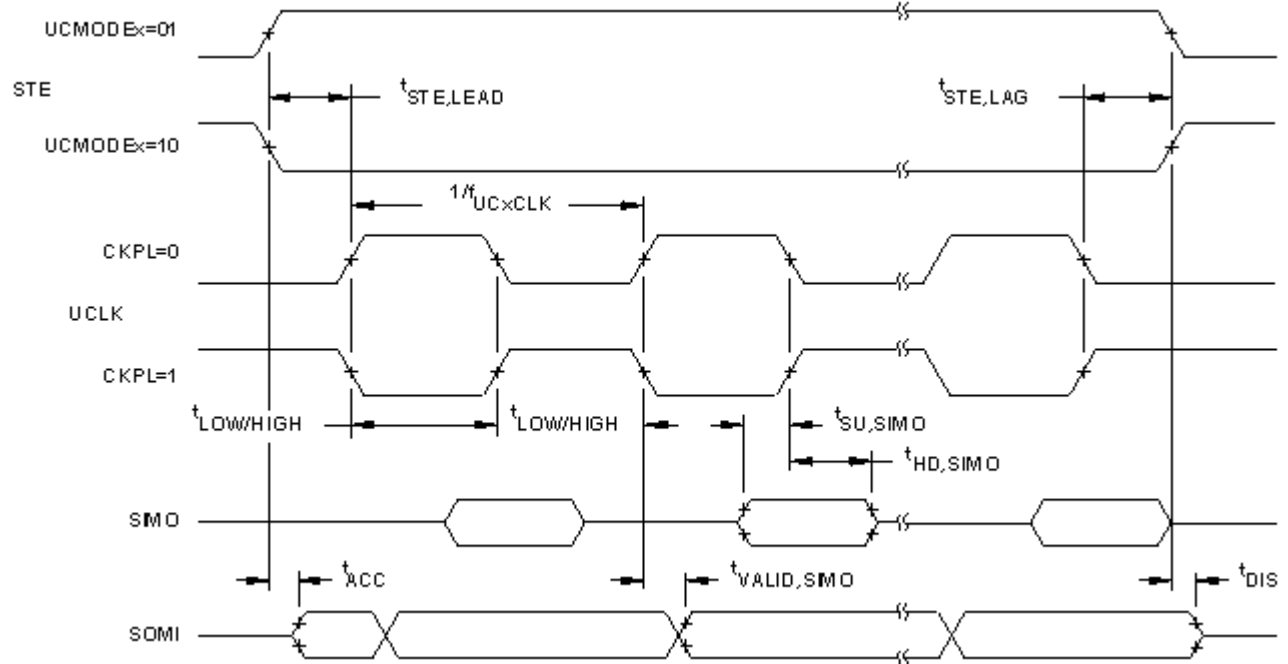
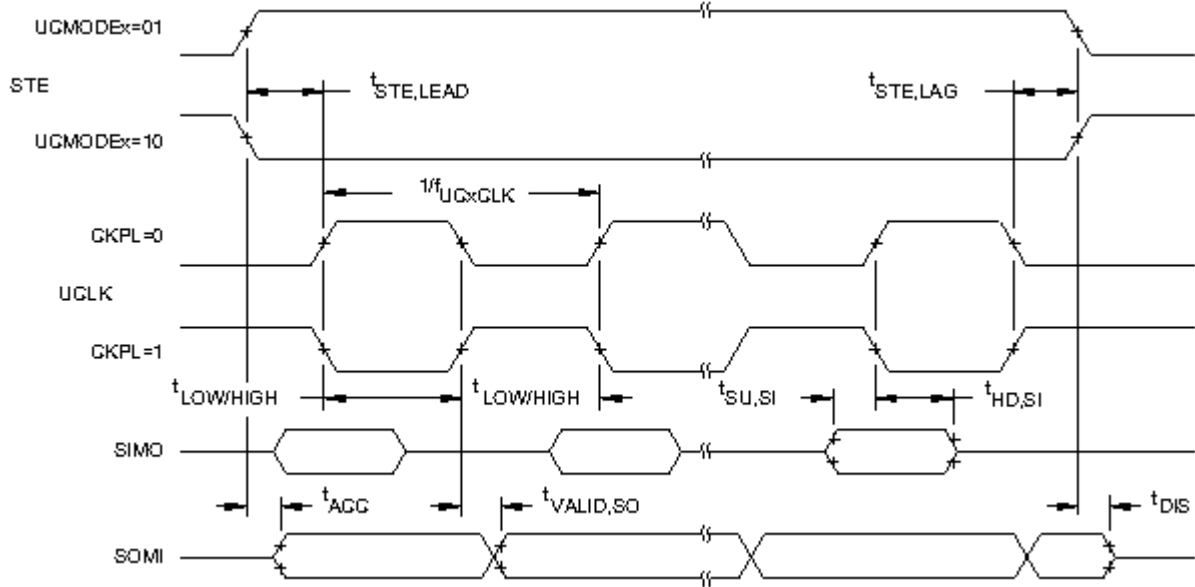

FIGURE 11. SPI Slave mode, CKPH = 0.
FIGURE 12. SPI Slave mode, CKPH = 1.
- 53/ Specifies the time to drive the next valid data to the SOMI output after the output changing UCLK clock edge. See the timing diagrams in FIGURE 11 and FIGURE 12.
- 54/ Specifies how long data on the SOMI output is valid after the output changing UCLK clock edge. See the timing diagrams in FIGURE 11 and FIGURE 12.